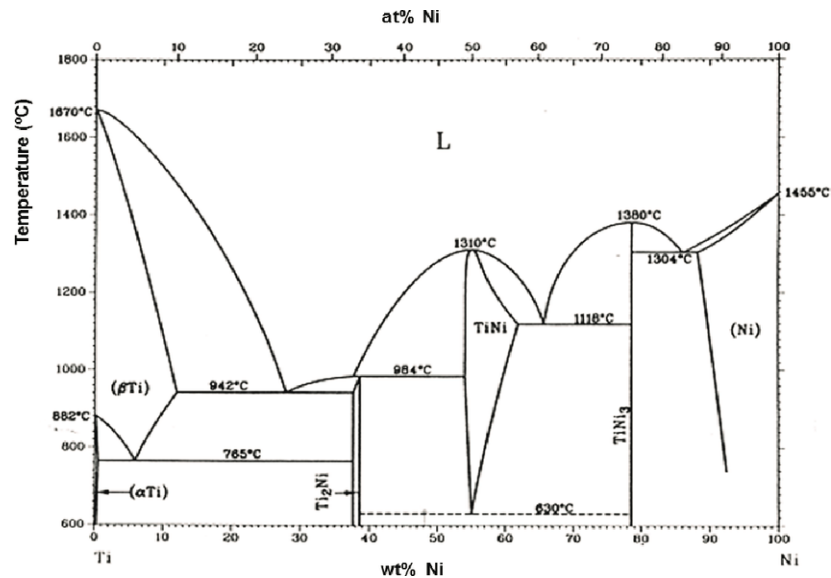

Figure 2 / *Rajah 2*: Binary phase diagram of Ti-Ni / *Gambarajah fasa binary Ti-Ni*
- (5). (a). From the phase diagram given in Figure 2 of Ti-Ni, answer the following :